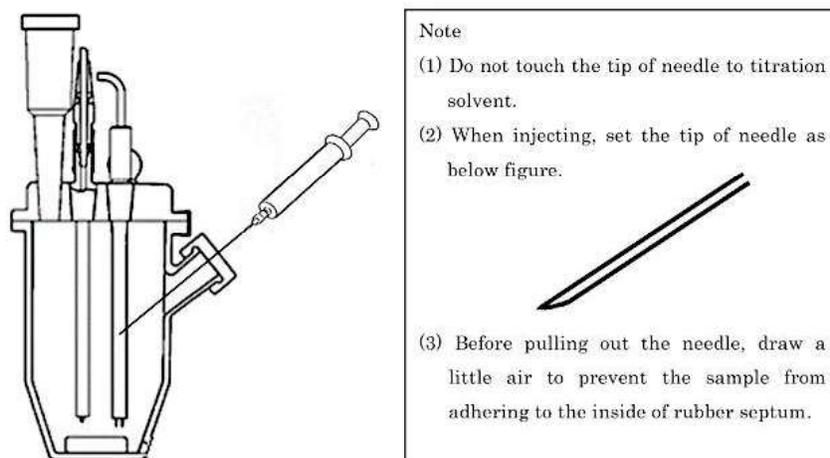

Fig.3.2 Injection of sample
(4) Inject a few drops of water from rubber septum of titration cell as shown in Fig.3.2. Approximate amount of addition is 20-40 mg. (40-60 mg when using Composite 5 for KF titrant)
(5) Start titration. Measurement parameter is shown in Table 4.1.
(6) Weigh the syringe again and record its read (Size 2 [g]). The difference of (Size 1-Size 2 [g]) is set as sample size.
(7) Repeat the measurement 3 times and obtain an average value for factor of KF titrant.